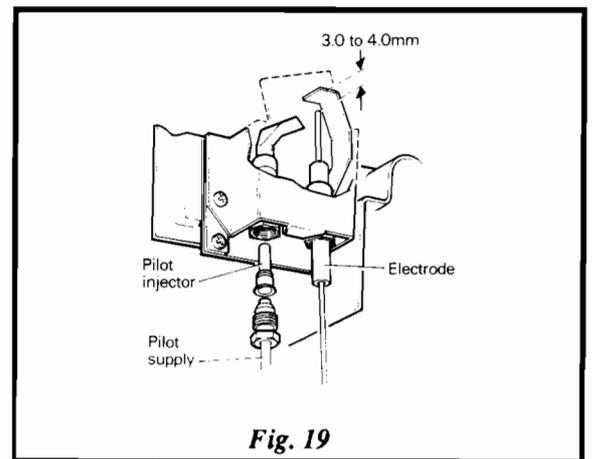

Fig. 19
18.1 Dismantling - see Fig. 19.
10. Undo the securing nut and remove the electrode, see Fig. 19, from the pilot assembly. Remove the grommet on the electrode lead from the burner air guide.
13. Undo the tubing nuts and disconnect the pilot supply, see Fig. 19, from both the pilot assembly and gas valve.
14. Carefully remove and retain the pilot injector, see Fig. 19.
6. Replace the spark electrode. Ensure that the grommet on the electrode lead is fitted to the burner air guide. Check that the spark gap is 3.0 to 4.0 mm, see Fig. 19.
20.1 To replace the spark electrode - see Fig. 19.
7. Remove the two screws securing the pilot shield. Lift off the pilot shield and check that the spark gap is 3.0 to 4.0 mm as shown in Fig. 19.
20.2 To replace the pilot injector - see Fig. 19.
4. Undo the tubing nuts and disconnect the pilot supply, see Fig. 19, from both the pilot assembly and gas valve.
5. Remove the pilot injector from the pilot assembly, see Fig. 19.
20.3 To replace the pilot burner - see Fig.19.
5. Undo the tubing nuts and disconnect the pilot supply, see Fig. 19, from both the pilot assembly and gas valve.
6. Remove the pilot injector from the pilot assembly, see Fig. 19.
9. Fit a new pilot burner and secure with two screws. Replace the pilot injector, pilot supply and spark electrode. Check that the spark gap is 3.0 to 4.0 mm as shown in Fig. 19.